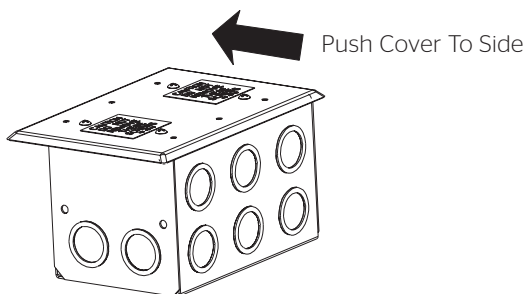

Figure 3
2. Upon removing the screws, push the cover plate to the side of the box. See Figure 3.